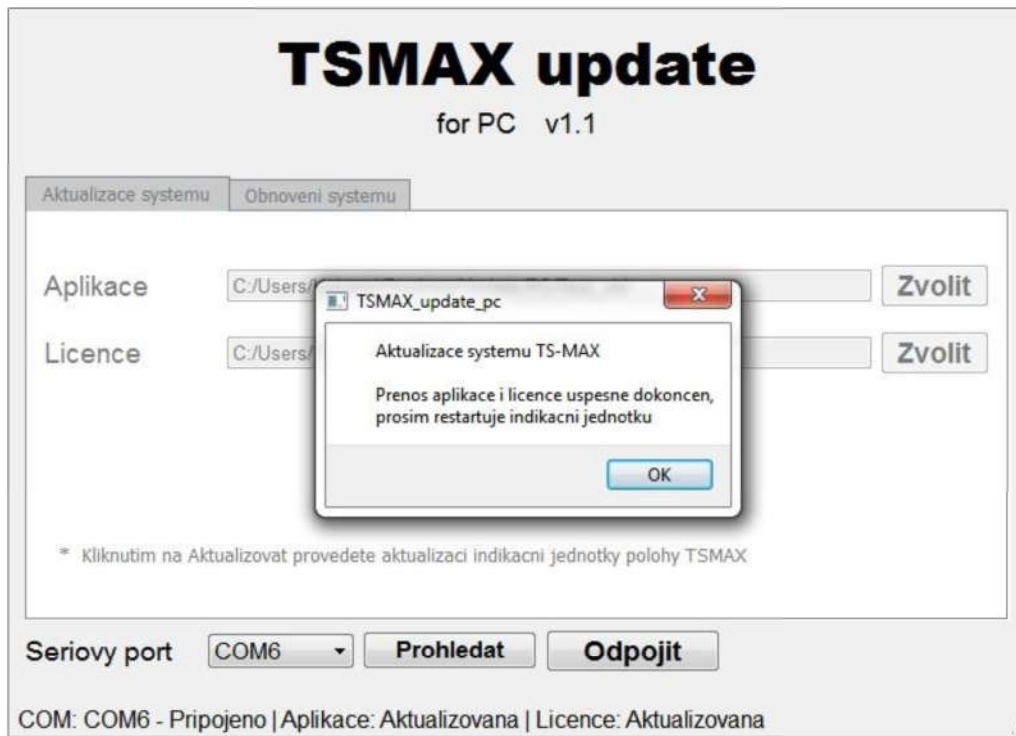

Fig. 55: System update – update completed
- ⑩ After completing the system update, new status report displays to restart the readout unit (see fig. 55: System update – update completed).
- ⑩ After the readout unit restart, the system should automatically start with program TSMAX.